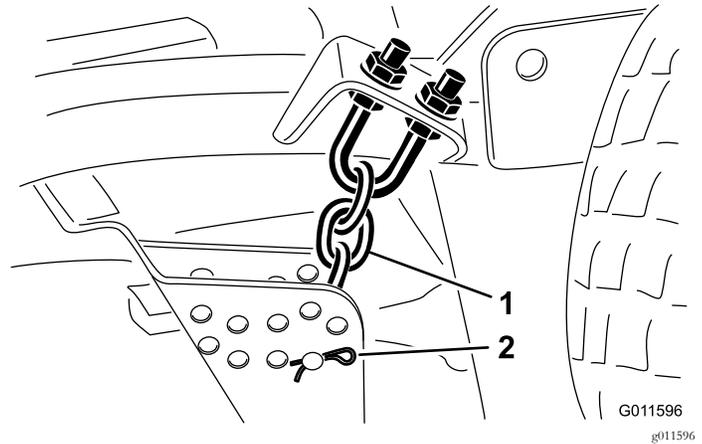

Figure 22
- Remove the hairpin cotter and clevis pin securing the height-of-cut chains to the rear of the mower deck (Figure 22).